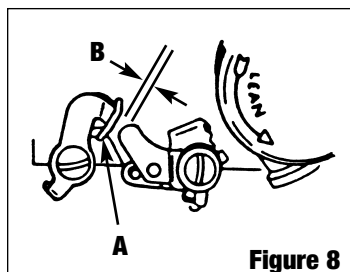

Figure 8
- **SECONDARY THROTTLE VALVE CLOSING (FIG. 8)**